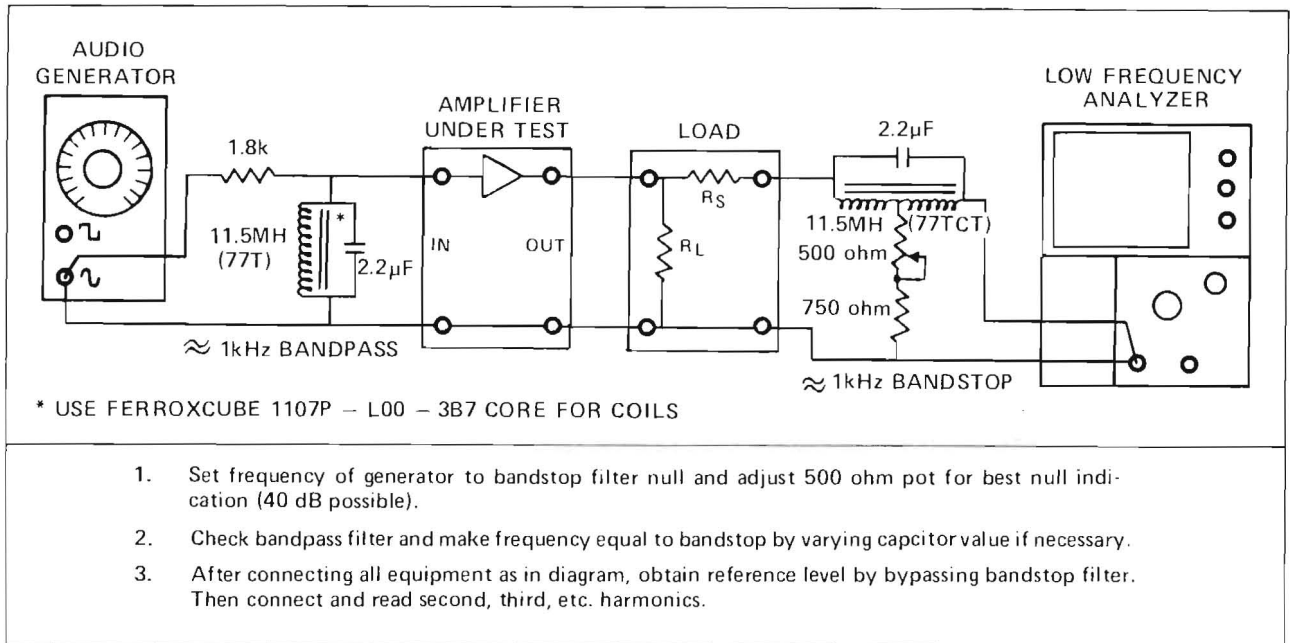

Figure 24 Extending the Range of THD Measurements at 1 kHz
2. The 70 dB (.031%) range of measurement that is possible with the 5L4N Low Frequency Spectrum Analyzer can be extended to 100 dB or more (.001%) by adding a band stop filter tuned to suppress the fundamental test tones between the amplifier and 5L4N INPUT. The oscillator must also be clean to 100 dB and may require extra bandpass filtering. Complete details for extended range measurements are shown in Figure 24.